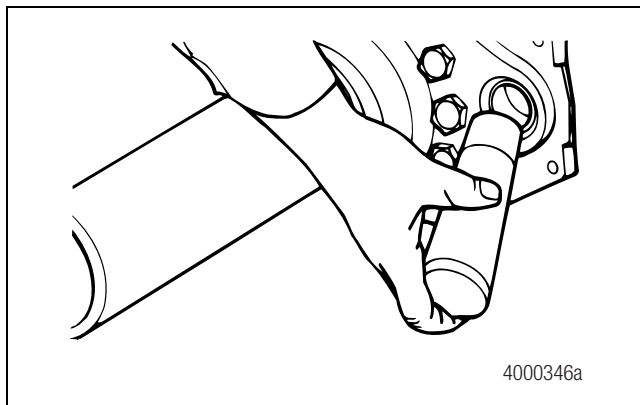

Figure 5.18
- D. Place a bushing into the bore of the spider and bracket. Use the correct size driver to install the bushings into the bore. The bushings are correctly installed when the bottom of the bushing is even with the bottom of the seal bore. The bushing must not extend into the seal bore. Figure 5.18.